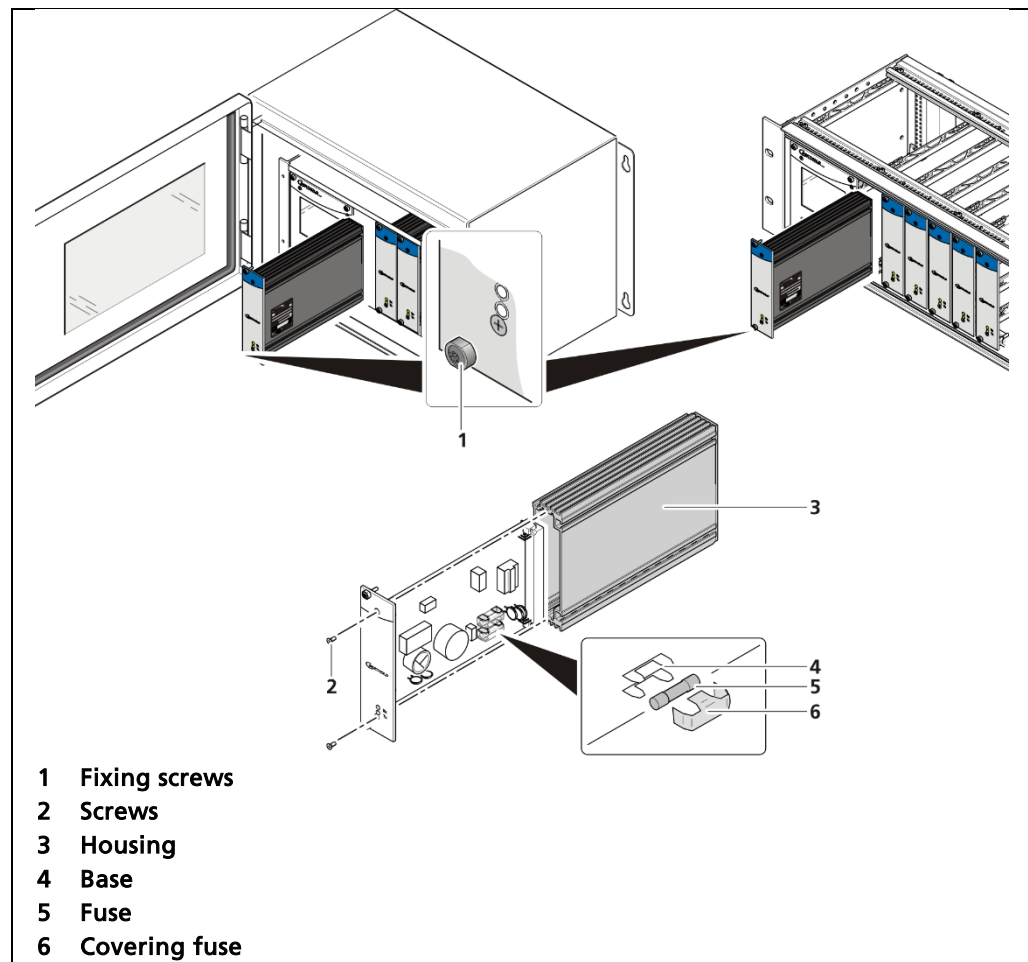

Fig. 149 Exchange fuses slave EVU
2. Loosen the four fixing screws (Fig. 149, item 1) and remove the slave module from the wall housing or subrack.
3. Loosen the two sunken screws on the front side of the slave module (Fig. 149, item 2).
4. Pull out the housing (Fig. 149, item 3) carefully.
5. Remove the protective covering of the fuse (Fig. 149, item 6)
6. Remove the fuse (Fig. 149, item 5).
11. Tighten all fixing screws (Fig. 149, item 1).